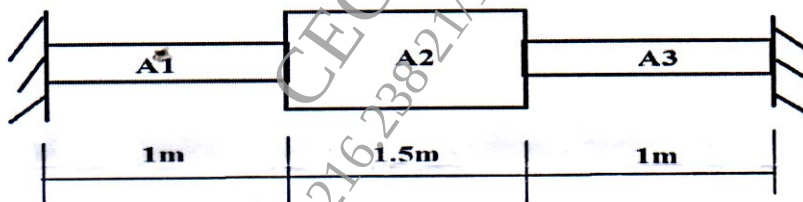

Figure:6
- Q10) a)** Use consistent mass matrix and find the first two natural frequencies of longitudinal vibration of the stepped bar as shown in figure 6. Take cross-sectional areas $A_1 = A_3 = 5 \text{ cm}^2$ and $A_2 = 10 \text{ cm}^2$, $E = 210 \text{ GPa}$ and $\rho = 7860 \text{ kg/m}^3$. [10]